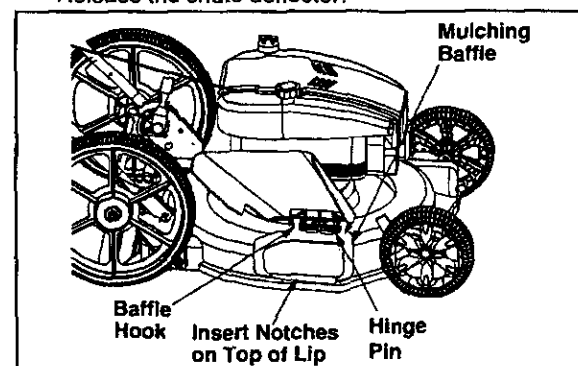

Figure 13
- Insert the mulching baffle so that the notches at the bottom of the baffle sit firmly on the lip of the deck opening. See Figure 13.